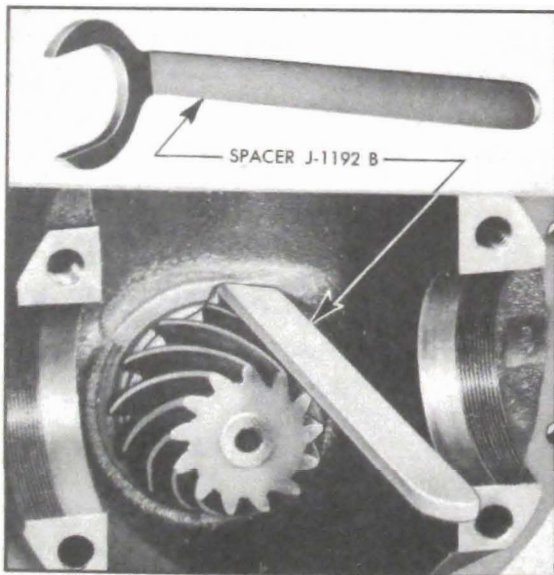

Figure 5-22—Use of Pinion Bearing Spacer J 1192-B
4. As the pinion rear bearing enters third member housing, place Pinion Bearing Spacer J-1192-B, (1/4" thick) between bearing and pinion gear so that bearing can be pushed into place without binding against spacer on pinion shaft. See figure 5-22.